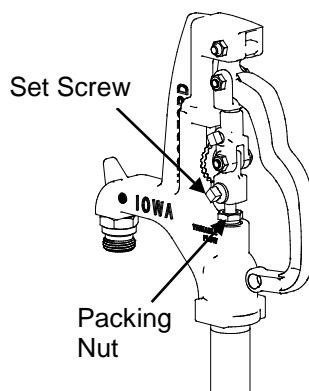

Fig 1
2. Loosen the linkage Set Screw. Fig 1
3. Loosen, do not remove, the Packing Nut. Fig 1